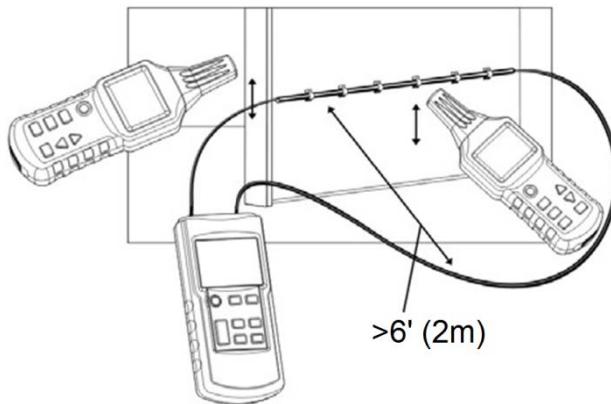

Fig. 21
1. Connect the transmitter as shown in Fig. 21. The distance between the supply line and the loopback line must be at least 6 to 7.5'.